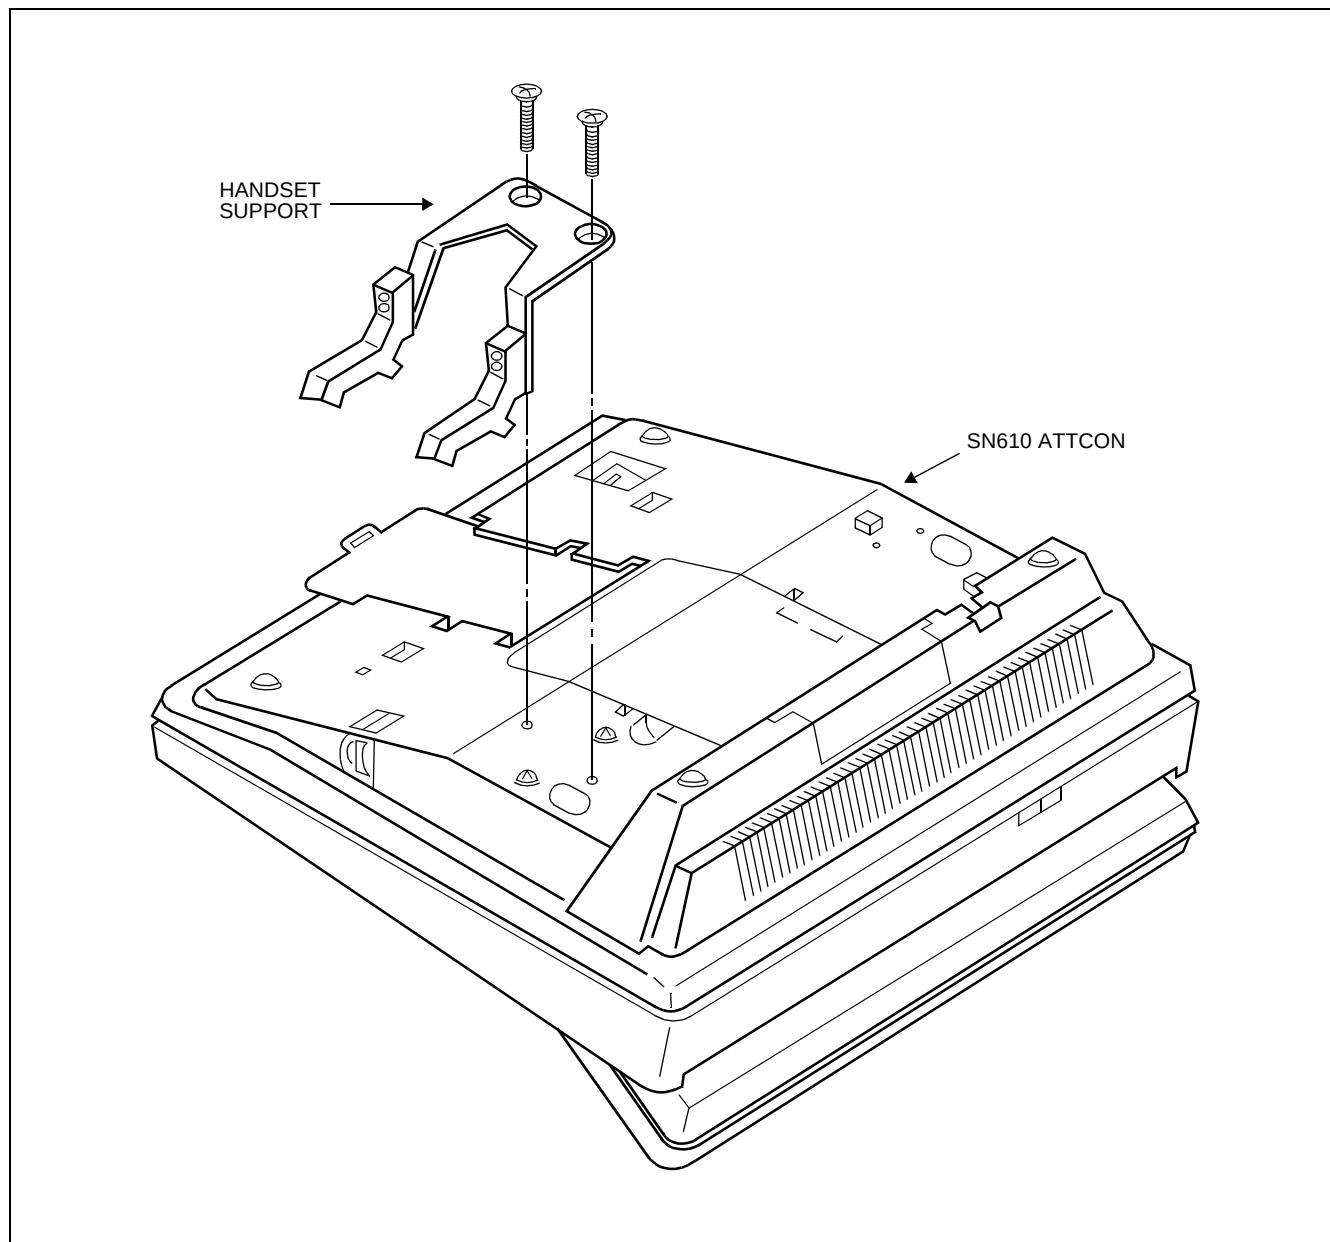

Figure 007-14 Mounting Handset Support to SN610 ATTCON
STEP 1: Screw the handset support onto the bottom of the console as shown in Figure 007-14.